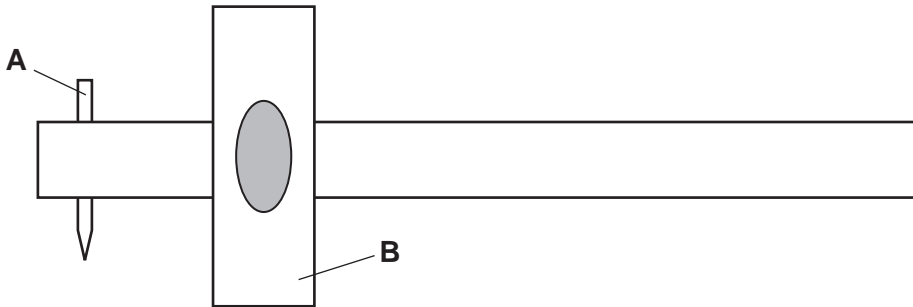

Fig. 2
- 2 Fig. 2 shows a marking gauge.